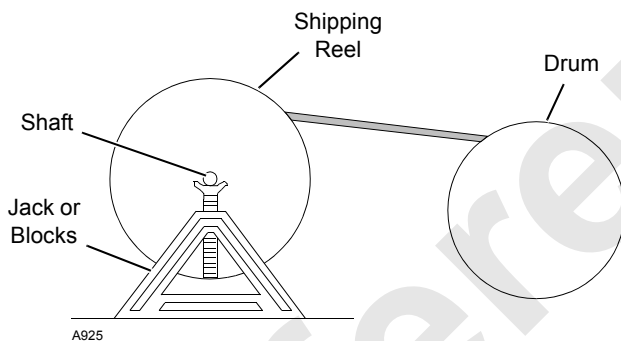

FIGURE 4-33
1. Mount wire rope shipping reel on a shaft supported at both ends by jacks or blocks as shown in Figure 4-33.